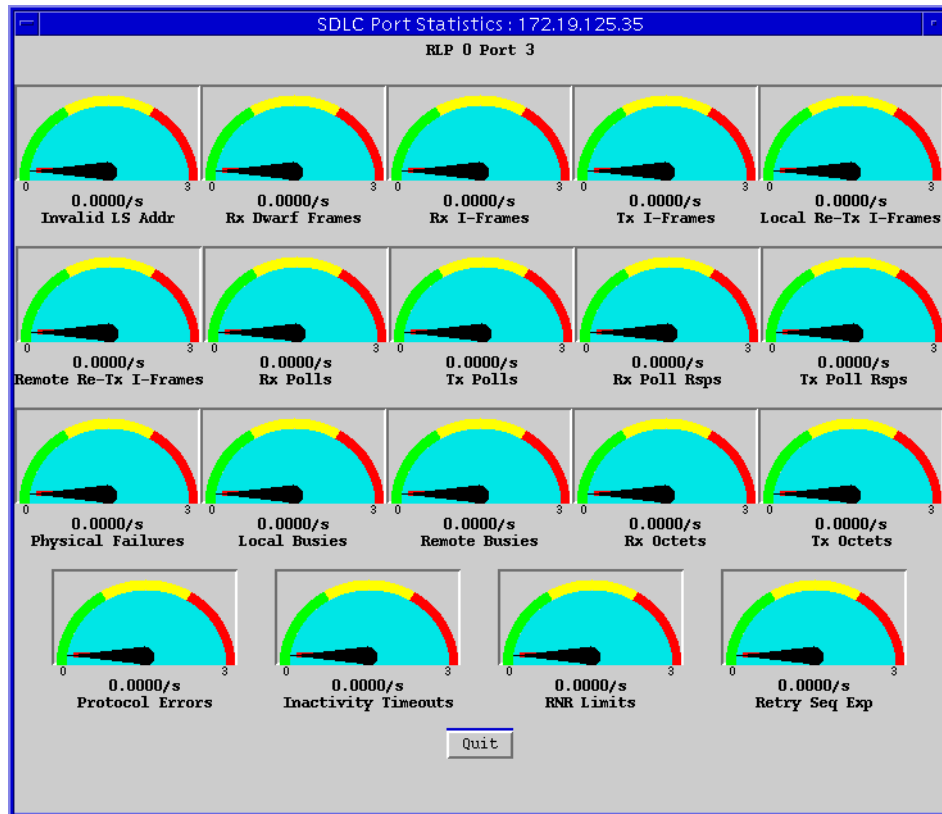

Figure 7-7. SDLC Port Statistics
2. Drag down to **SDLC Port Statistics**, and release. The SDLC Port Statistics window, Figure 7-7, will appear.